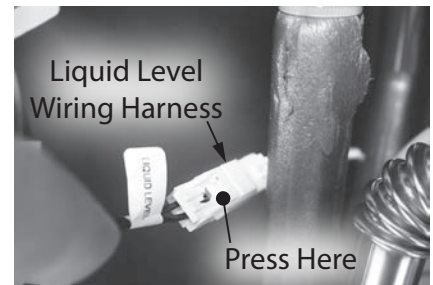

Figure 197 - Liquid level wiring harness location
- 10 Trace the black wires from the condensate trap to the wiring harness labeled "Liquid Level." Disconnect the wires. See Figure 197.